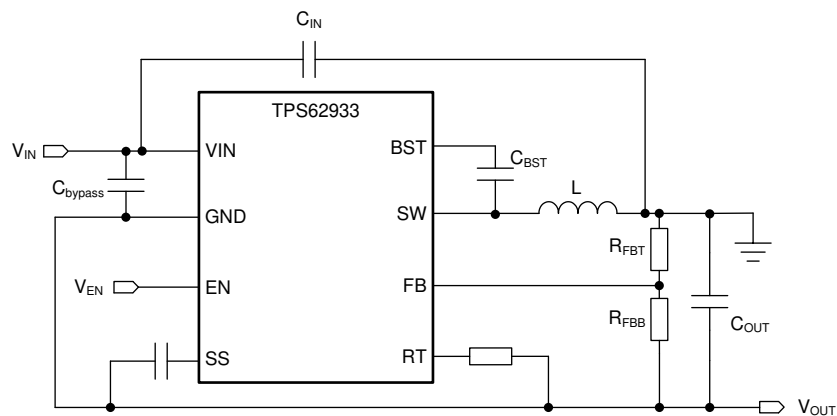
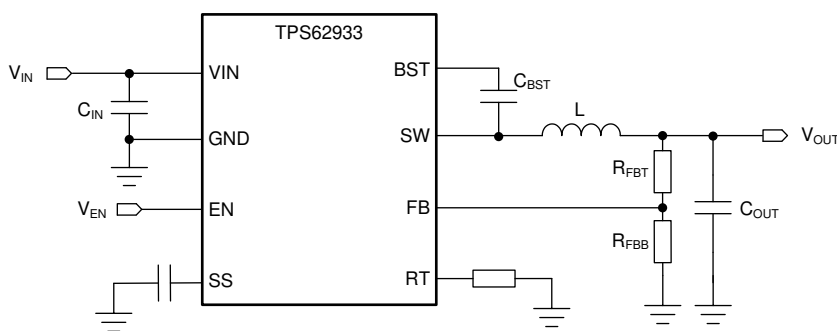

Figure 2-1. TIDA-050053 Block Diagram
Figure 2-2. Buck Converter Application
The inverting buck-boost topology is similar to the buck topology. In the buck configuration, shown in Figure 2-2, the positive connection (V_{OUT}) is connected to the inductor, and the return connection is connected to the integrated circuit (IC) ground (GND). However, in Figure 2-1 illustrating the inverting buck-boost configuration, the IC GND is used as the negative output voltage pin. What was the positive output in the buck configuration is used as the GND. This inverting topology allows the output voltage to be inverted and always lower than the GND.